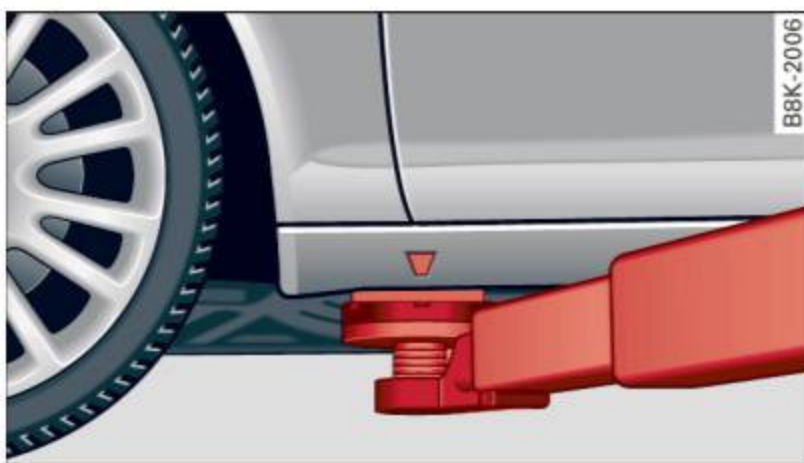
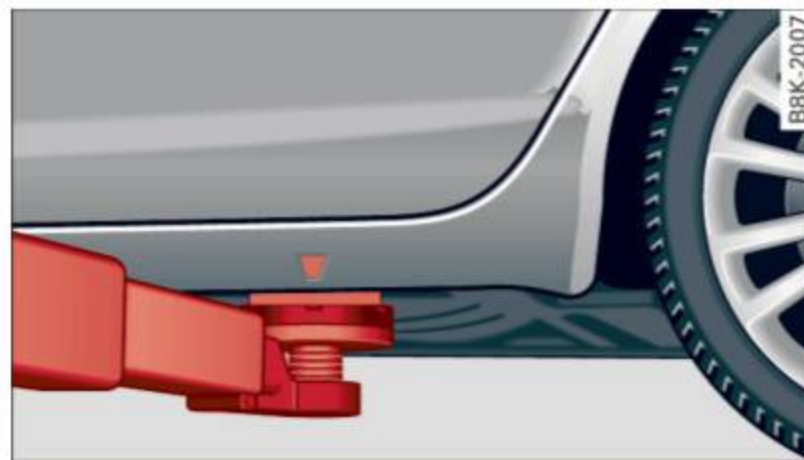

Fig. 218 Front lifting point
Fig. 219 Rear lifting point
- ▶ Locate lifting points ⇒ *fig. 218* and ⇒ *fig. 219*.
The lifting point is located on the floor pan reinforcement about at the same level as the jack mounting point ⇒ *fig. 218*. **Do not lift the vehicle at the vertical sill reinforcement.**
The lifting point is located on the vertical reinforcement of the lower sill for the onboard jack ⇒ *fig. 219*.
- Always lift the vehicle only at the special workshop hoist and floor jack lift points illustrated ⇒ *fig. 218* and ⇒ *fig. 219*.